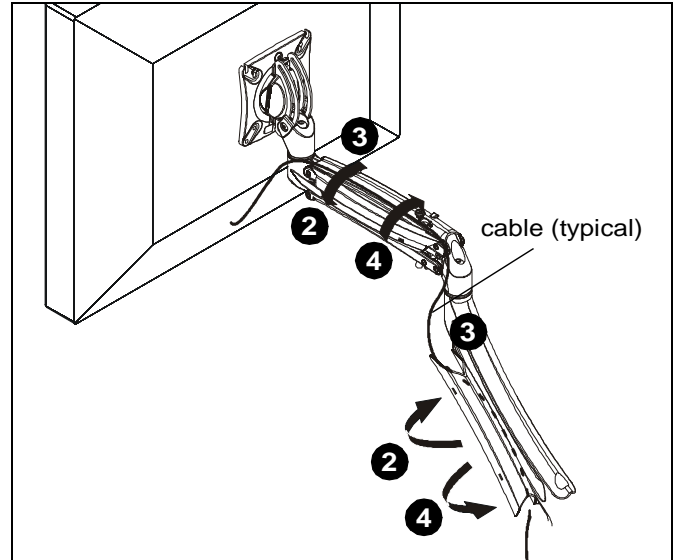

Figure 28
3. Route cables through cable management channels. (See Figure 28)
4. Close cable management covers on monitor arm. (See Figure 28)